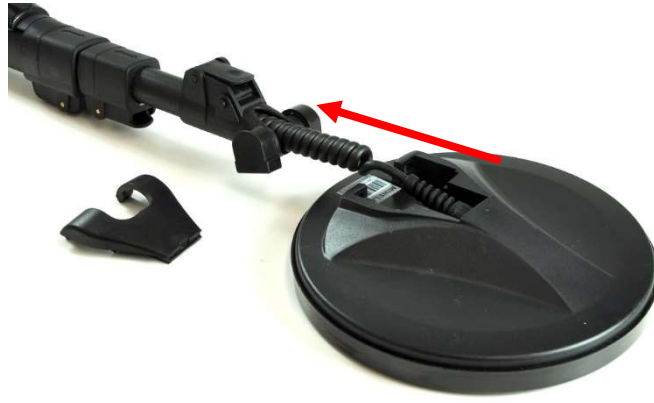

Figure 31: Threading Coil Cable through Shafts.
- Insert the coil cable into the lower shaft, as show in figure 31.